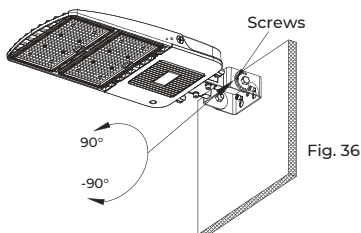

Fig. 36
7. Use a wrench to loose the screw to adjust the angle (range 180°) as shown in Fig. 36.